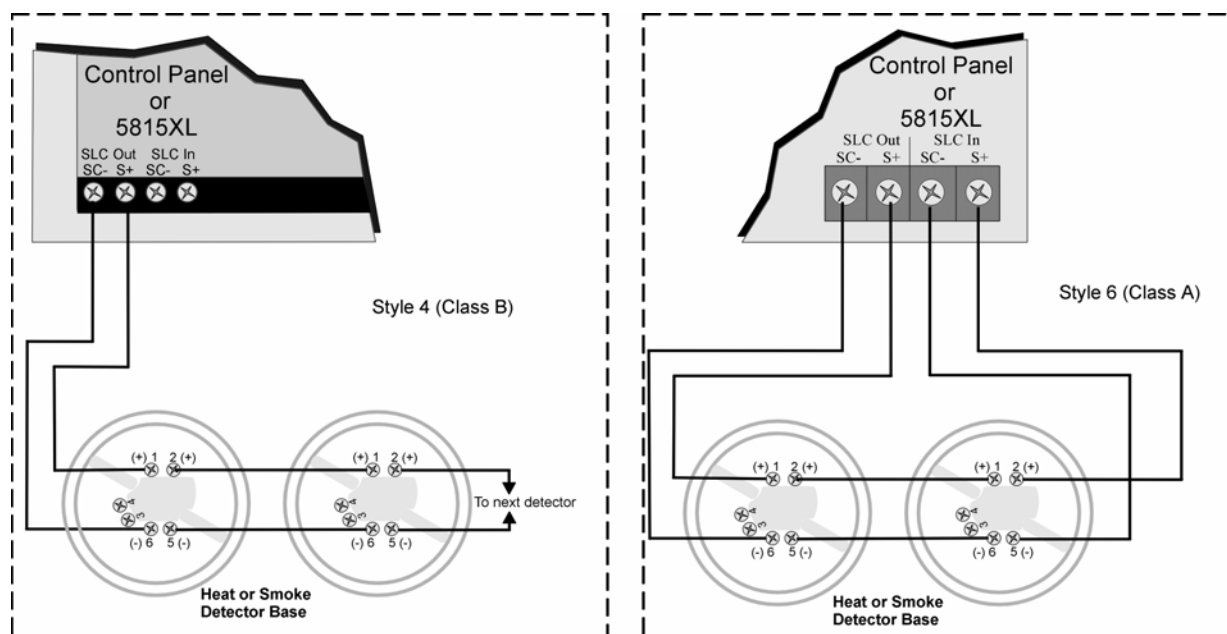

Figure 5-6 Heat or Smoke Detector Connection to the FACP (Class B)
1. Wire device bases as shown in Figure 5-6.